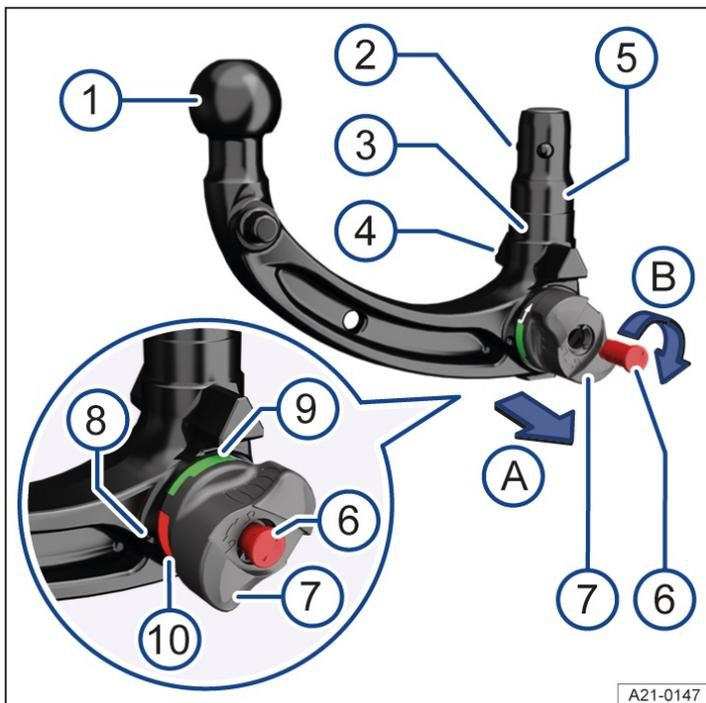

Fig. 1 Overview: removable ball coupling.
1. Before using the removable ball coupling for the first time, make a note of the number stamped on the key → Fig. 1 ⁶. This can be used if you need to acquire a replacement key.